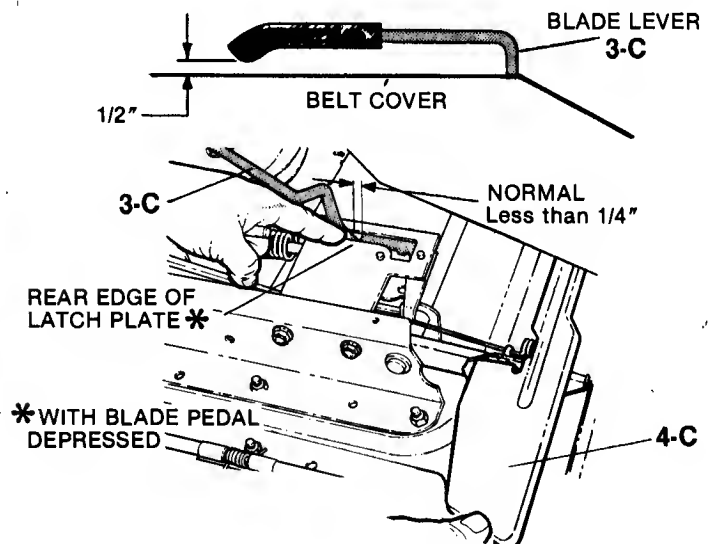
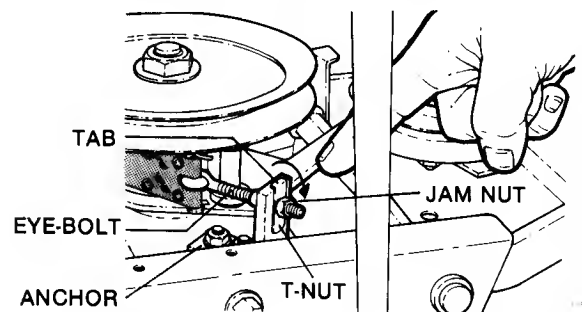

FIG. 10 - BLADE LEVER TRAVEL
FIG. 11 - BLADE BRAKE ADJUSTMENT
As the brake band wears, the BLADE lever will gradually stop further rearward in the slot of the BELT COVER. Blade brake adjustment is required when the lever stops more than 1/4" behind the latch plate. Refer to FIG. 10. The adjusting point is shown in FIG. 11. **With the engine STOPPED**, the adjustment is made as follows:
**STEP 2:** While holding the BLADE lever firmly in the rearward position, loosen the jam-nut on the end of the eye bolt (refer to FIG. 11).
**STEP 4:** Release the BLADE pedals to allow the BLADE lever to move to the OFF position, then depress the BLADE pedals again and check the clearance between forward edge of the BLADE lever and the rear edge of the latch plate which should be less than 1/4" (FIG. 10). Repeat the procedure in step 2 if needed to obtain correct clearance. When correct, hold the BLADE lever rearward and turn the jam-nut tight against the T-nut to lock in new position. Reinstall BELT COVER.